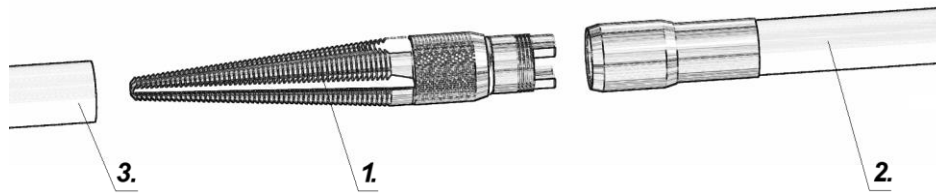

Figure 8.8.1
For installing PE, PVC pipes (manually) the Insert nipple (1) could be used (Figure 8.8.1.). This method can be used for pipes of diameter  $\varnothing 25 \div \varnothing 55$  mm.